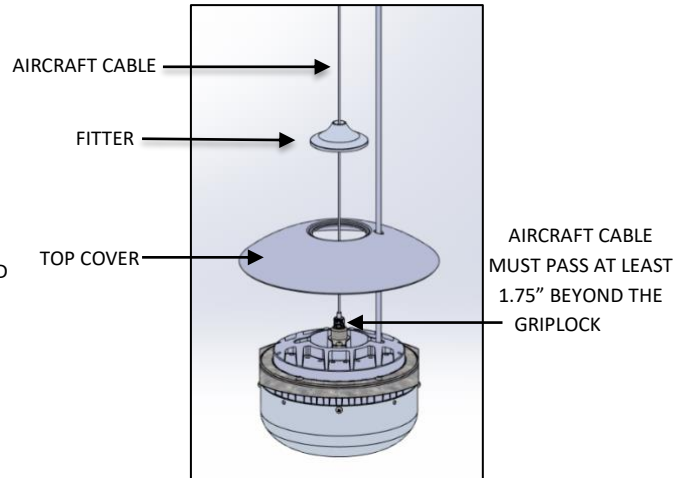

FIG. 16 – AIRCRAFT CABLE
7. Feed AIRCRAFT CABLE through FITTER and the center hold of TOP COVER into the body of the GRIPLOCK and adjust fixture drop to desired height as shown in FIG. 16.